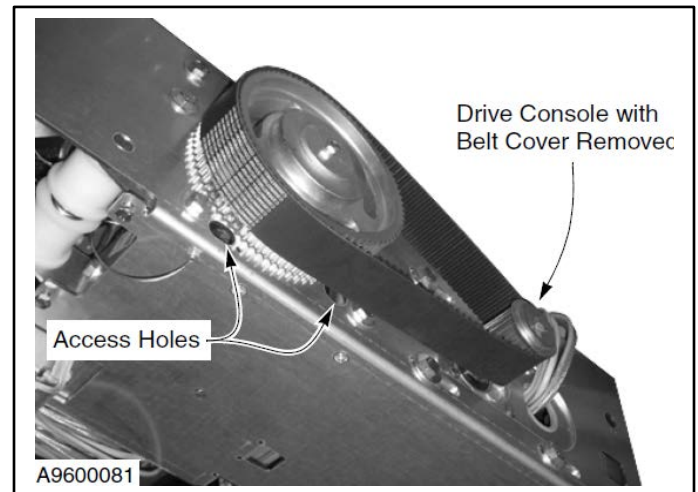

Figure 47
*NOTE: On the drive console, remove the belt cover to locate the two access holes and loosen the bolts to the guide pulley trolley. (See Figure 47.)*